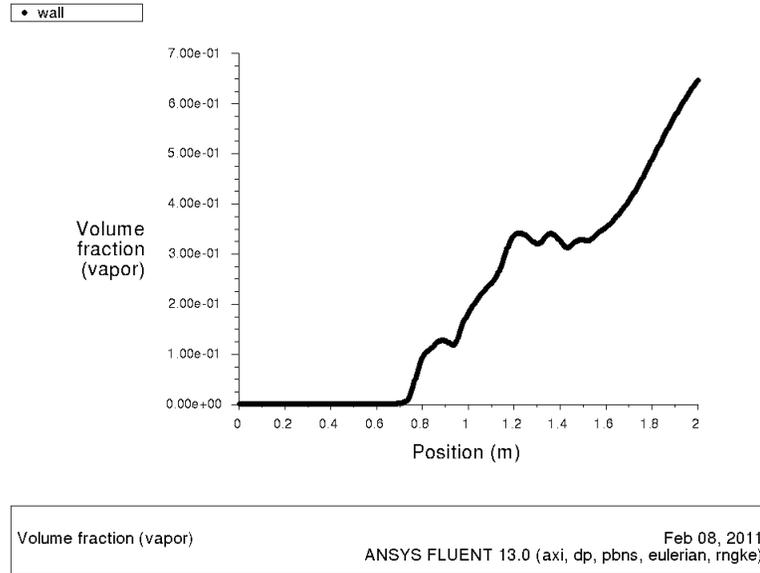

Figure 8: Profile of Vapor Volume Fraction Along the Wall
- (f) Click Plot (see Figure 8).
*Figure 8 shows that the vapor is evolved along the pipe wall as the fluid is heated and boiling occurs. The location of boiling initialization is observed to be around  $x = 0.5$  m.*